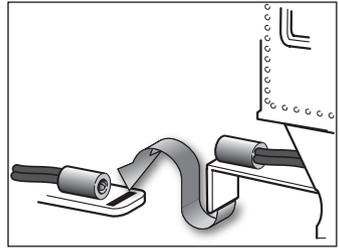

Figure 1. Drawbar connection
- 2. Place your locomotive and tender on the track and connect the drawbar as shown in Figure 1.**
- 2. Place your locomotive and tender on the track and connect the drawbar as shown in Figure 1 on page 4.**
**Note!** Power your locomotive with an alternating-current (50-60Hz AC) transformer only. Powering your locomotive with a direct-current (DC) transformer, or in excess of 19 volts AC, may result in damage to sensitive electronic components.
- 1. With track power off, place your locomotive and tender on the track. Connect the drawbar as shown in Figure 1 on page 4.**